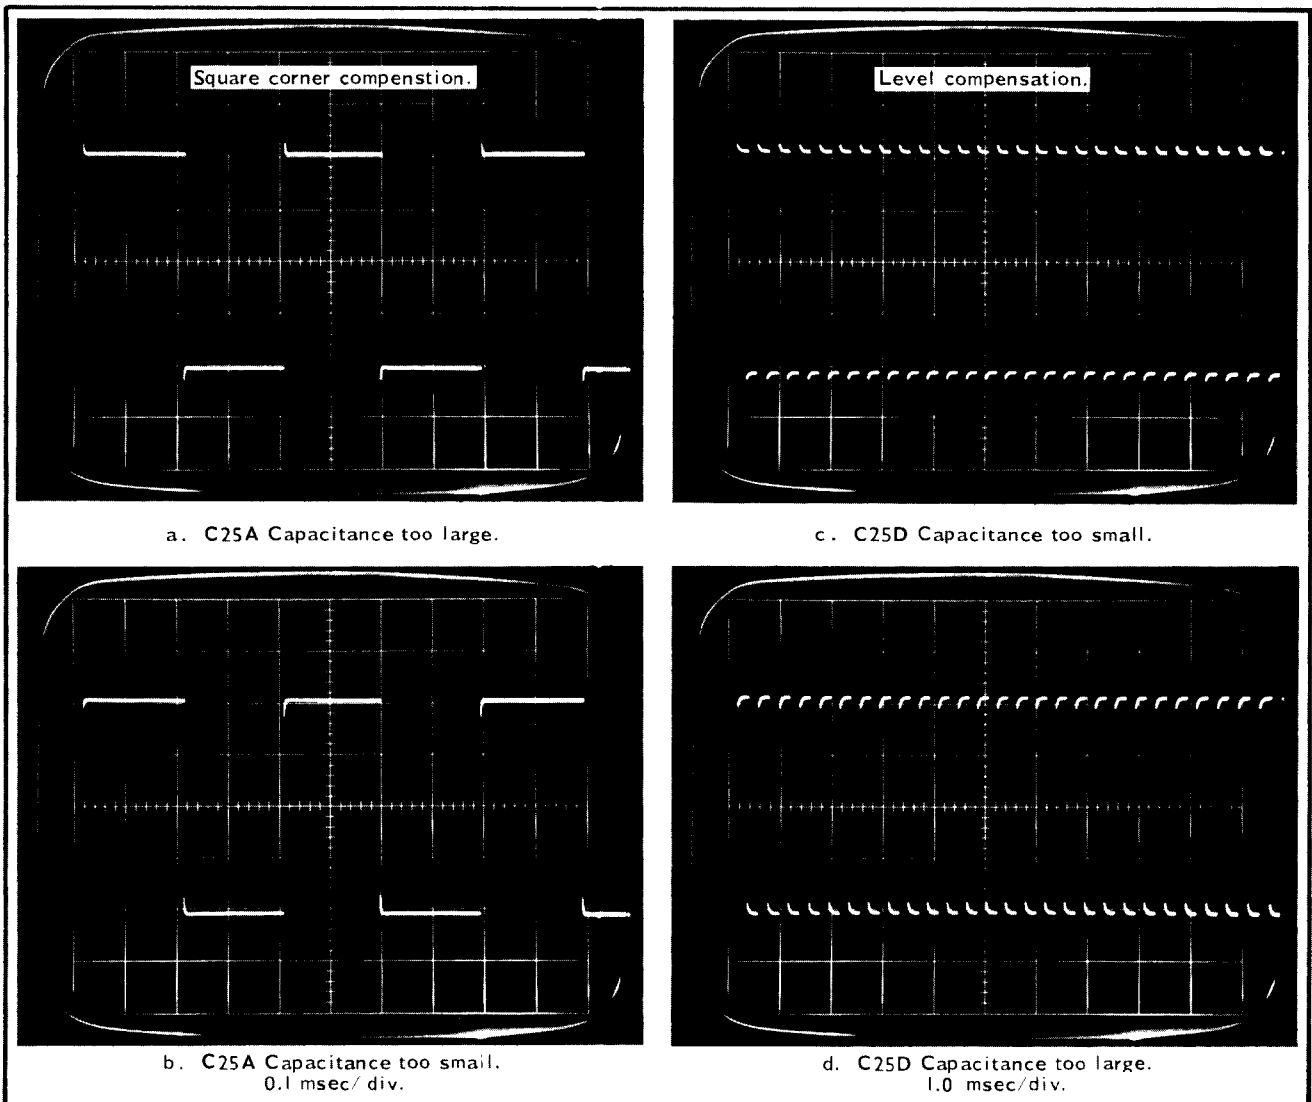

Fig. 6-16. Examples of sweep rate and display when adjusting attenuator capacitors. Signal ≈ 2 kHz. Type 3A5 VOLTS/DIV = 1 VOLT/DIV.
d. Use Table 6-3 and Fig. 6-16 while adjusting the input attenuator compensating capacitors. Start at 10 mV/DIV and work to 50 V/DIV, adjusting the Calibrator Amplitude control and removing the attenuator, termination and standardizer when higher deflection factors make it no longer possible to obtain four divisions of display.